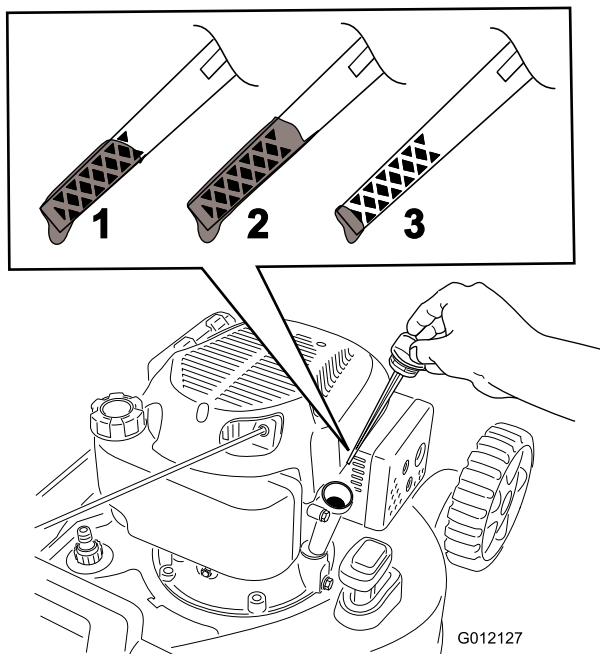

Figure 9
2. Remove the dipstick (Figure 9).
5. Remove the dipstick and read the oil level on the dipstick (Figure 9).